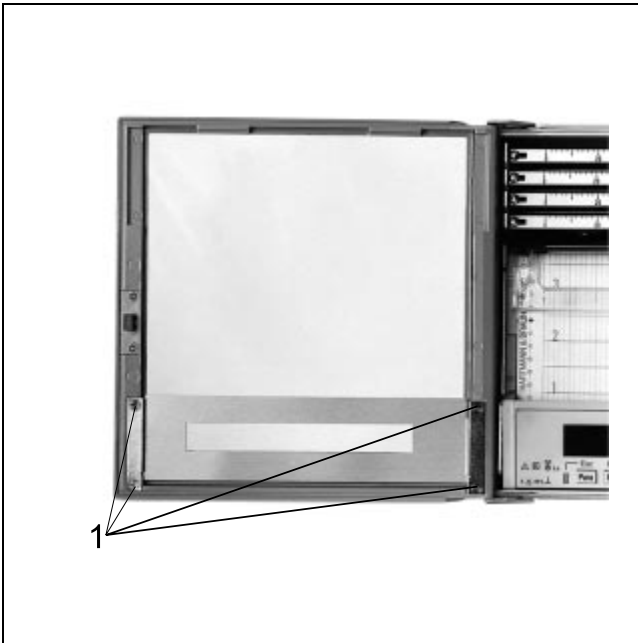

Fig. 18 Exchanging the tag name plate
3. Shorten the new tag name plate at the rupture joints (see fig. 18) and insert into the retainer.